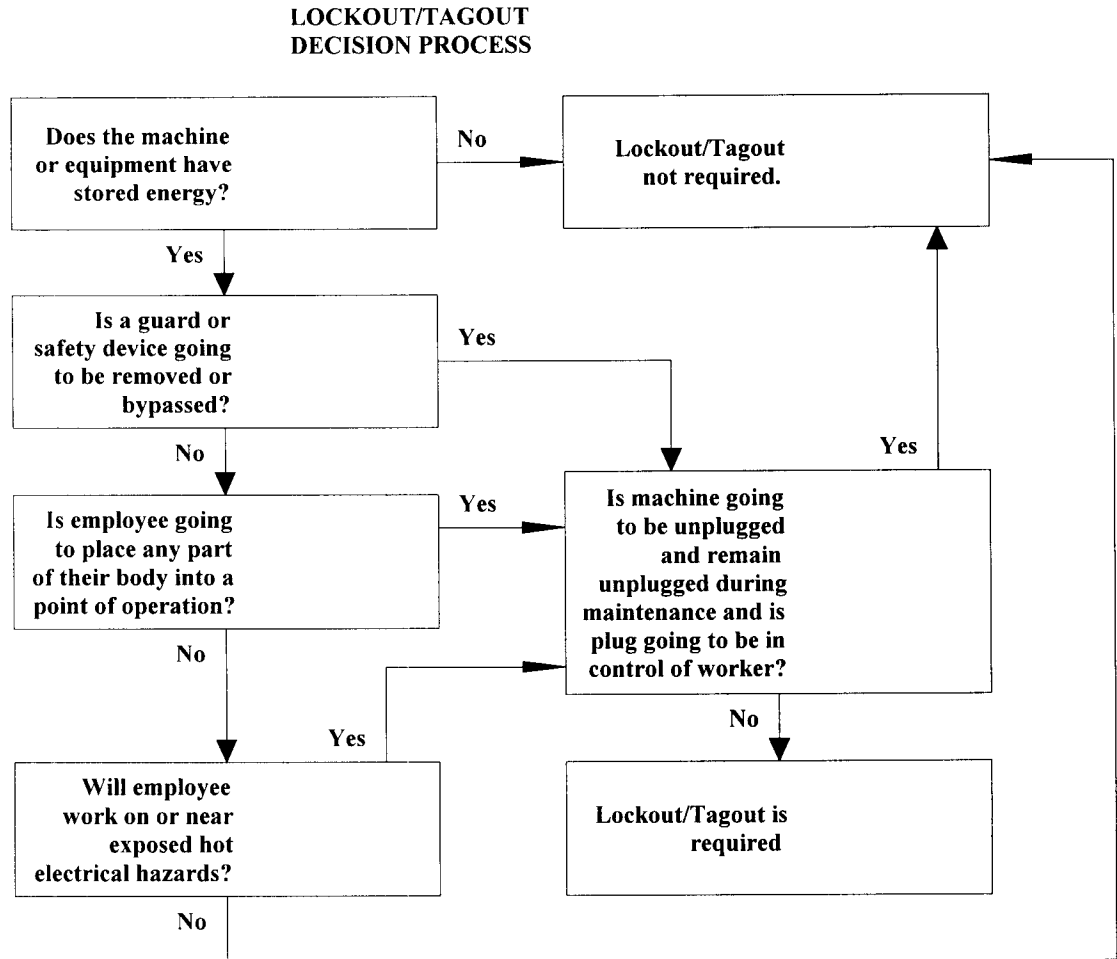

Figure 1
5. Scope and Policy. Lockout/Tagout is required (decision process summarized in Figure 1) anytime servicing and/or maintenance takes place if an employee is: